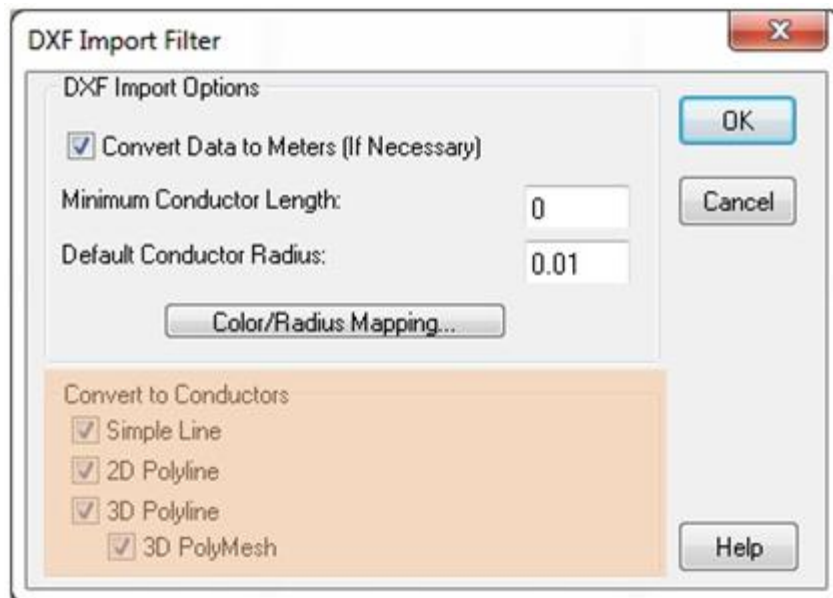

Figure 1: Select the entire Convert to Conductors options to get a maximum of information from the DXF file
3. Import the DXF drawing (*sampleequipment.dxf*) into the new document (**File | Import...**). Be sure to selected all the Convert to Conductors options so as to import all the type of lines available in the DXF file as shown Figure 1.